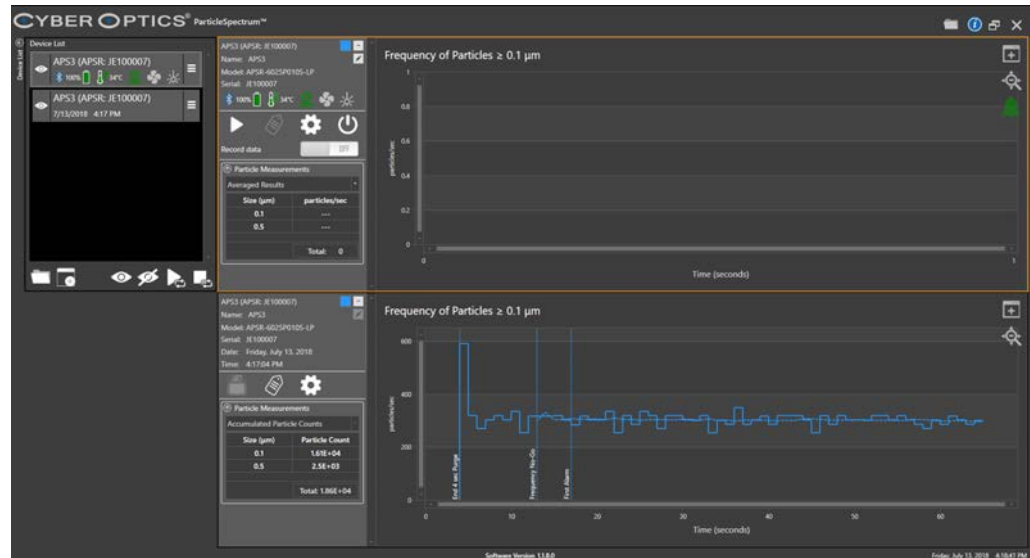

Figure 4.2: Opening a Log File
- The **Review** window will appear below the active device as shown in Figure 4.2, displaying the controls and the graphical window used to review log files. The log file will also appear in the **Device List**.